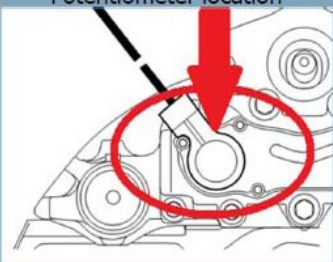

Figure 9 - Removal of Wear Sensor
1.10. Removal of electrical wear sensor connections or potentiometer connections (see Figure 9).